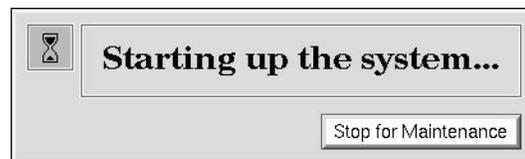

Figure 7-8 System Startup Notifier
2. When the system startup notifier appears, as shown in Figure 7-8, click *Stop for Maintenance* or press `<Esc>` to bring up the System Maintenance menu.